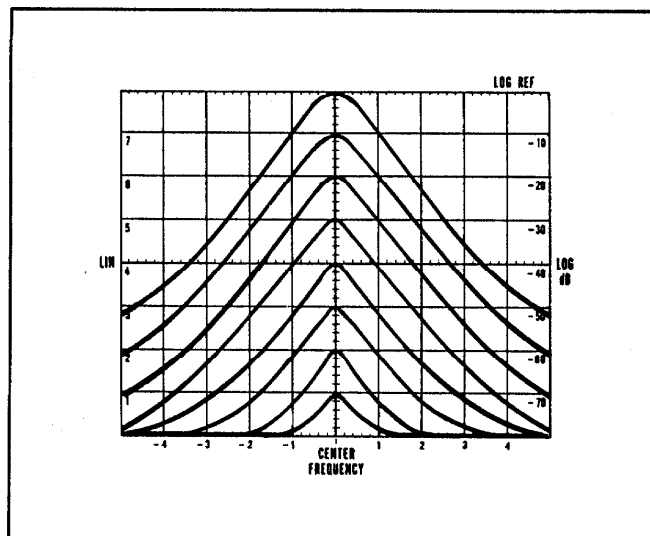

Figure 4-2. Vertical Gain Adjustment
g. Adjust the **LOG REF LEVEL** controls so the maximum signal amplitude is exactly on the -70 dB graticule line. (Adjust **AMPL CAL** signal level if necessary.) Rotate **LOG REF LEVEL** control seven steps in the clockwise direction. The amplitude of signal should increase in increments of one division per 10 dB step. See Figure 4-2.